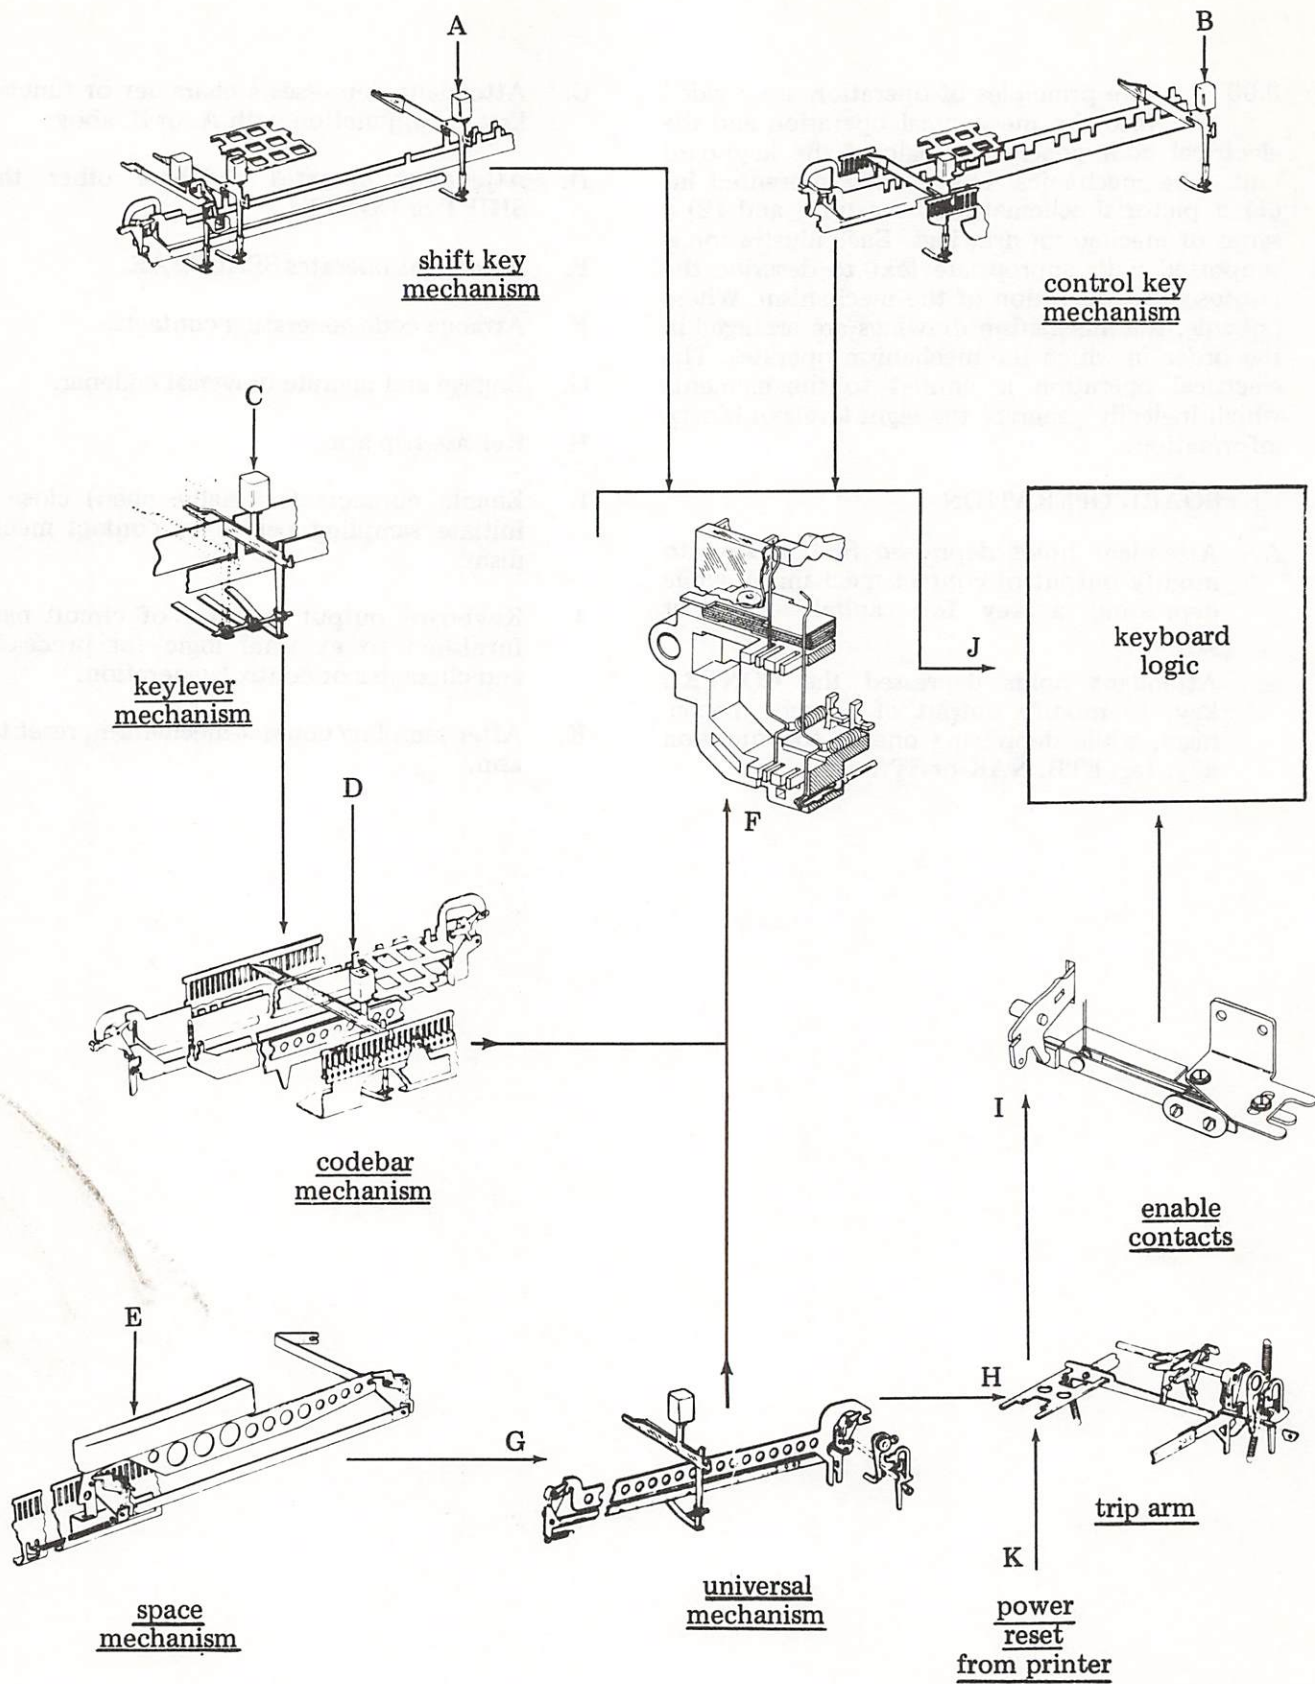

Figure 10 - Pictorial Diagram on Keyboard Operation
3.01 The keyboard is mechanically coupled to and operated by the distributor clutch on the printer. The interface between the printer and keyboard is through the H-plate. The H-plate connects the keyboard trip arm to the reset mechanism. Through linkage under the printer the reset mechanism is connected to the distributor clutch (Figure 9). Refer to the pictorial diagram on the keyboard operation (Figure 10) and the related descriptive outline to get an overview concerning the operation of the keyboard mechanism.